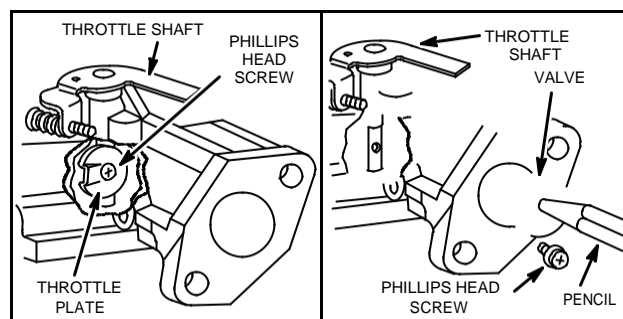

Fig. 149 – REMOVING THROTTLE PLATE, TYPICAL
2. After removal of valve, throttle shaft and dust seal may be lifted out, Fig. 149.